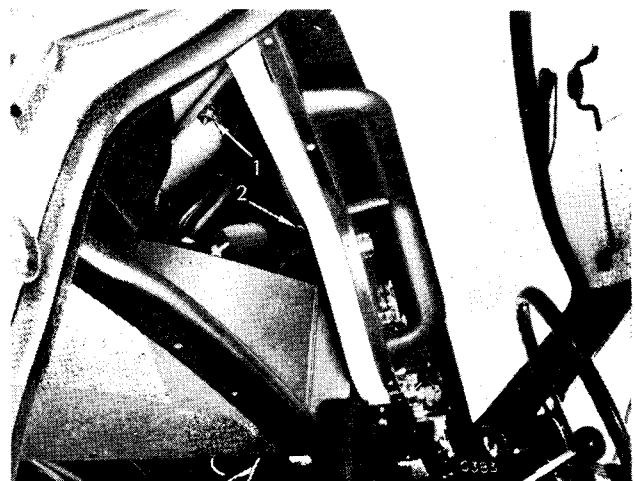

Fig. 26. Demister fishtail attachment
Remove the passenger's side parcel shelf, page 5·215. Pull off the demister hose and remove the demister fishtail, two nuts (2) (Fig. 26).
1. Lift out the ash tray (1).
2. Remove two nuts (2) (Fig. 26) and lift out the vent trims.
3. Remove six nuts (4).
4. Prie off the capping (2).